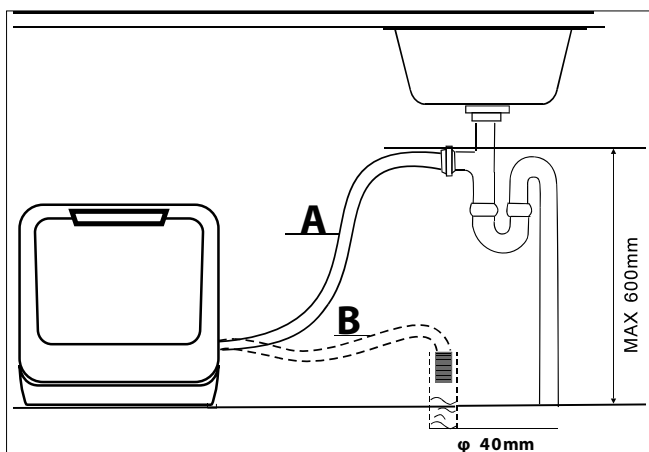

Fig. 8 – Siphon connection
- ▶ Connect the outlet hose with the drain pipe siphon (for washing machines) underneath the sink (see Fig. 8). Ensure that the waste water hose is inclined sufficiently. The appliance is to be positioned at least 4 cm higher than the drain.